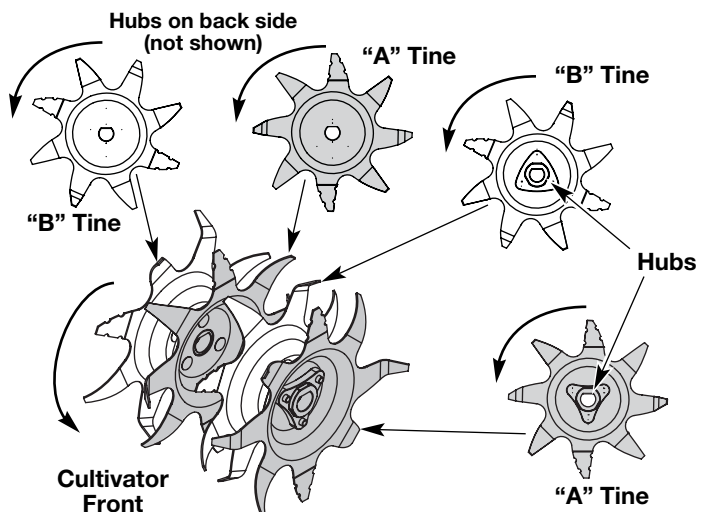

Fig. 12
- When you are reinstalling tines, lay out the tines and compare them to those shown in Figure 12. Note specifics about each tine: its hub, curvature and lettering (“A” or “B”). This will help make sure that you are placing the correct tines in the correct order.
NOTE: If you look closely, you can see a slight curvature in the tine tips. These curves should point toward the front of the cultivator when the tines are installed. Figure 12 shows the curve in each tine.